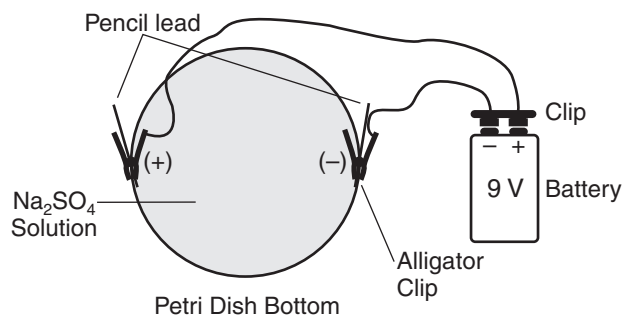

Figure 1.
4. To start the demonstration, clip the 9-volt battery into the snaps on the battery cap (Figure 1).